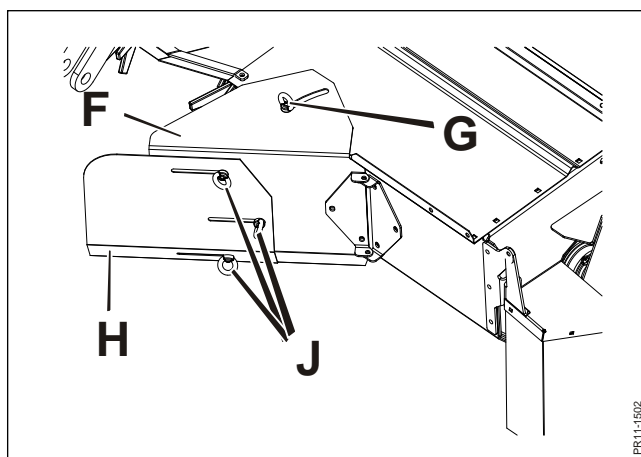

Fig. 3-13
**Fig. 3-13** The width of the swath is adjusted by turning the swath guards **F** and by adjusting the swath guard extensions **H**. The handle **G** is loosened and the swath guards can be moved either in or out. To adjust the swath guard extension the 3 nuts **J** must be loosened. If you wish to widespread with **GXF 3205** the swath guards must be opened completely. Thereby widespreading in the whole conditioner width is obtained.